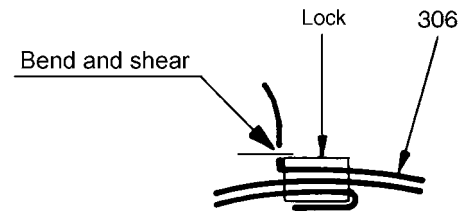

Figure 16: Canting and shearing the joint clamp
Note: Joint clamps made of hastelloy cannot be sheared off with the clamping tool. After canting at the joint clamp lock, shear off the joint clamp with a pair of metal shears and deburr the cutting edges (see figure 16).
- When using the clamping tool PoK-It II, cant the joint clamp (306) after tightening on the joint clamp lock by swiveling the clamping tool in such a way that the clamp cannot slide back through the lock. After canting at the joint clamp lock, shear off the joint clamp with a pair of metal shears and deburr the cutting edges (see figure 16).
ATTENTION Check whether the joint clamp is bent in such a way that it cannot slide back through the joint clamp lock (see figure 16). If this is not the case, remove the joint clamp and replace it with a new one.